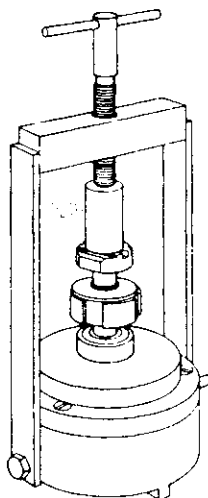

Figure 7.1
- Place the bearing assembly plug (T-101) onto the exposed end of the rotor shaft. (See Figure 7.1).